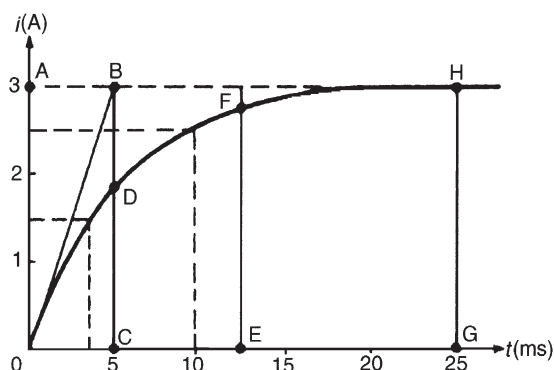

Figure 18.12
- With reference to Fig. 18.12, the initial slope is obtained by making AB equal to 1 time constant, (i.e. 5 ms), and joining OB .